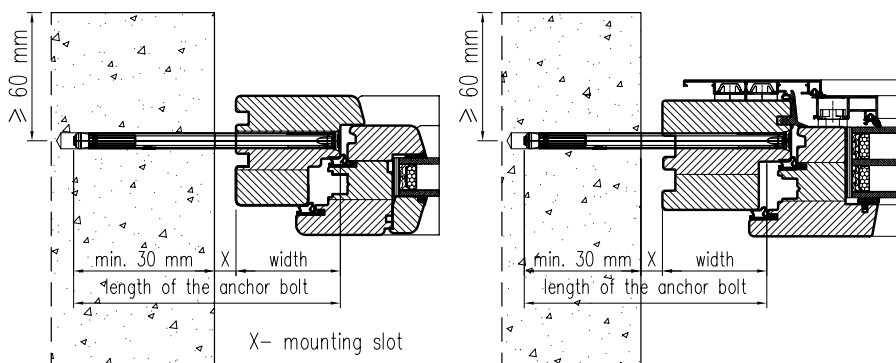
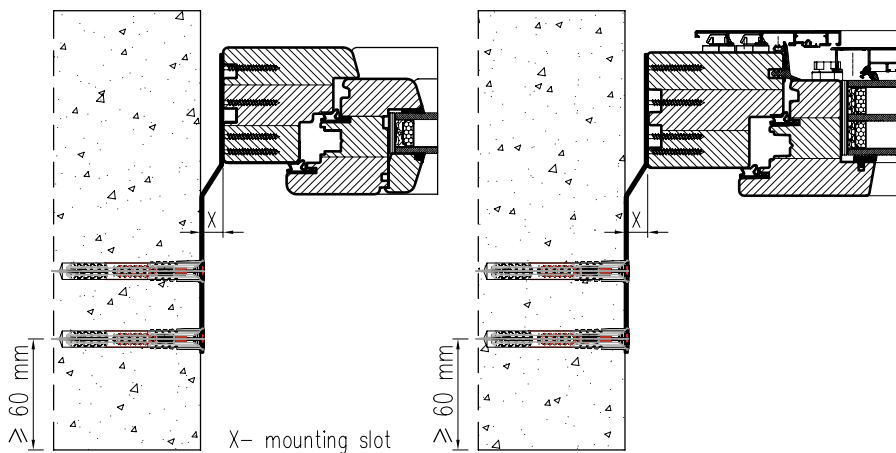

Fig. 2. Direct installation – using an anchor bolt
Fig. 3. Direct installation – using a mounting bracket
10. Fix the frame using anchor bolts (see Fig. 2, p. 8) or mounting brackets (see Fig. 3, p. 8).